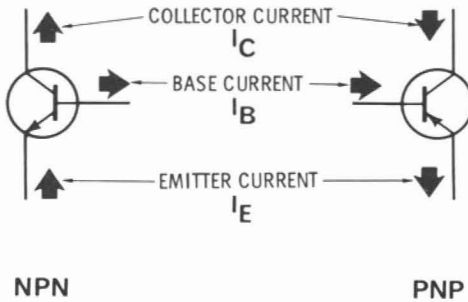

Fig. 2-21. Electron flow.
**Current**—The direction of electron flow in the wires connected to the transistor is shown in Fig. 2-21. For the case of the NPN transistor where electrons are the majority carriers, the electron flow shown is a continuation of the internal flow. For the PNP, the majority current carriers are holes and the internal conduction is due to hole current.